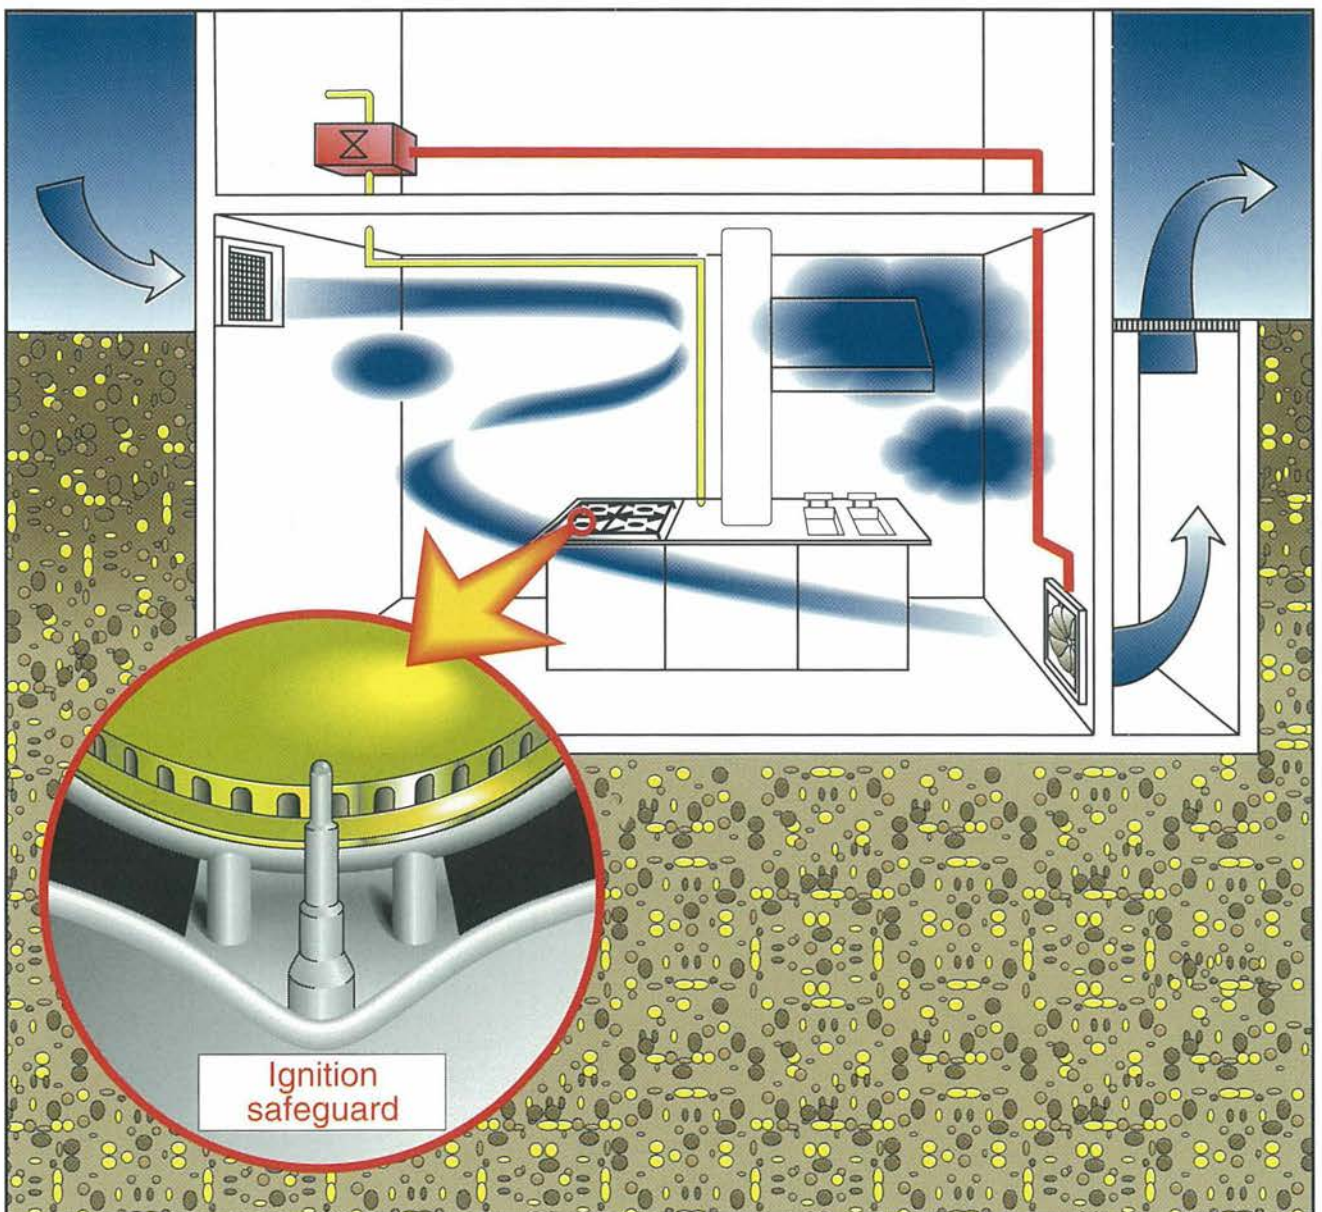

Fig. 18: Coupling of the gas supply of consumption equipment with the ventilation system, e.g. in underground rooms
- gas supply only on effective ventilation (coupling; Fig. 18),
- consumption equipment with ignition safety features (Figs 18 and 32),